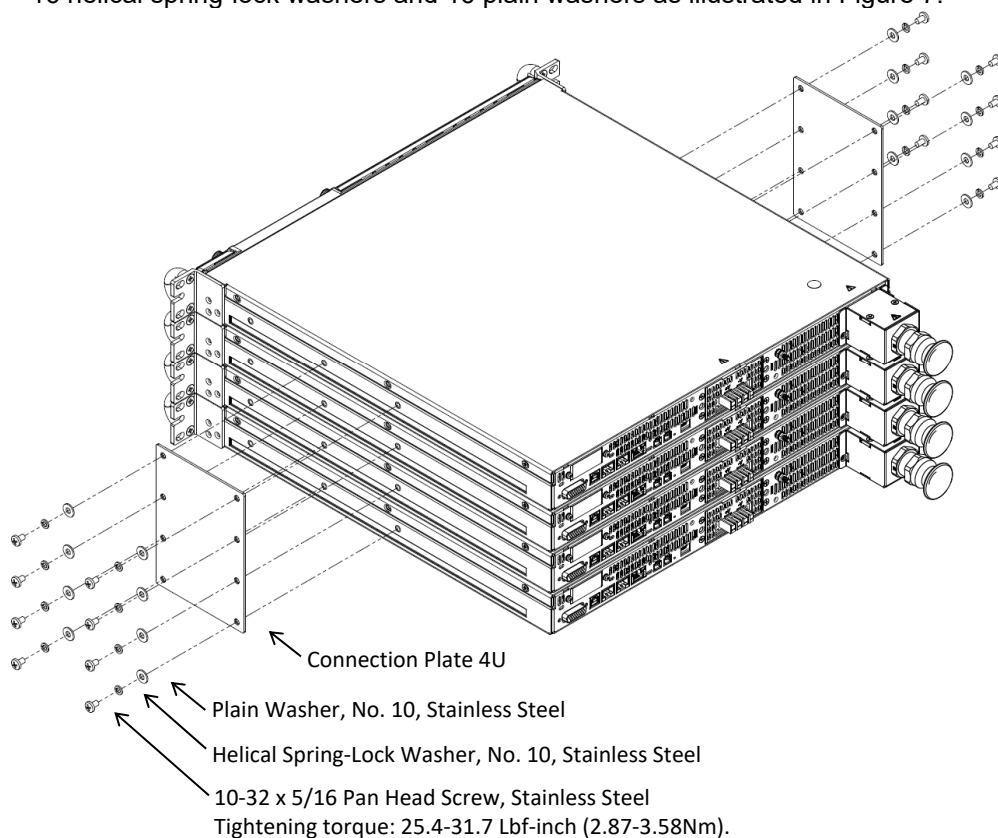

Figure 7: Four 150V-600V Units Connection Plates 4U Assembly
1. Attach connection plates, one on each side of the power supplies, using 16 pan head screws, 16 helical spring-lock washers and 16 plain washers as illustrated in Figure 7.